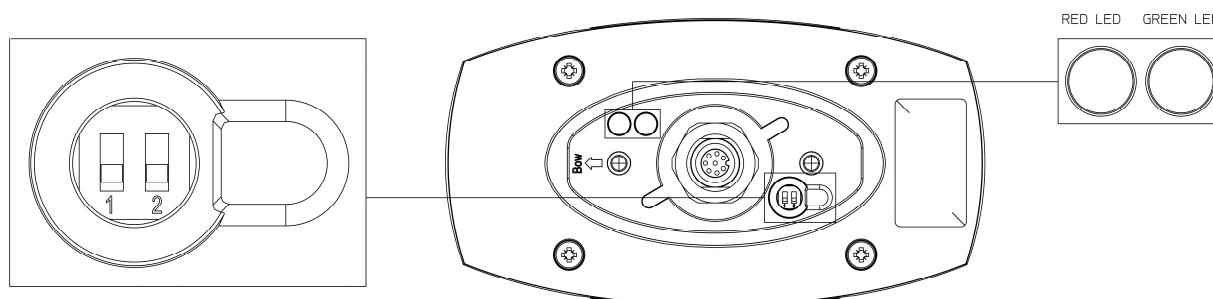

FIGURE 30: LT-1000 NRU DIP-SWITCH AND LEDs (BOTTEM SIDE OF LT-1000 NRU).
The LT-1000 NRU has a built-in DIP-switch, which is accessible from the bottom side of the unit, before the pole or roof mount is mounted. To access the DIP-switch, the cap plug has to be removed; hereafter the installer will have direct access to configuration of the DIP-switch. Furthermore, two LEDs are available on the bottom side of the LT-1000 NRU. The placement of the DIP-switch and LEDs are illustrated in Figure 30.
**IMPORTANT:** The DIP-switch is configured to 4.800 baud (NMEA 0183) and ‘Open’ (NMEA 2000) when leaving the factory. However, the installer should always check the settings of the DIP-switch prior to an installation. Make sure to hold the LT-1000 NRU as illustrated on Figure 30, when reading and configuring the DIP-switch, to avoid wrong settings.